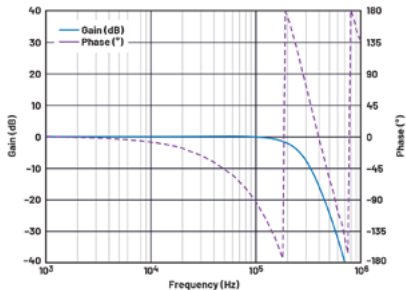

Figure 8: Frequency response of the ADuM4195.
- The feedback measurement  $G_m(s)$  was modeled upon the frequency response of the ADuM4195 working as an isolated follower (Figure 8), by using the MATLAB® System Identification Toolbox. A dominant pole around 200 kHz was confirmed, so that a fast response that remains above the target bandwidth of the control system (around 10% of the 250 kHz observable double frequency) is guaranteed.